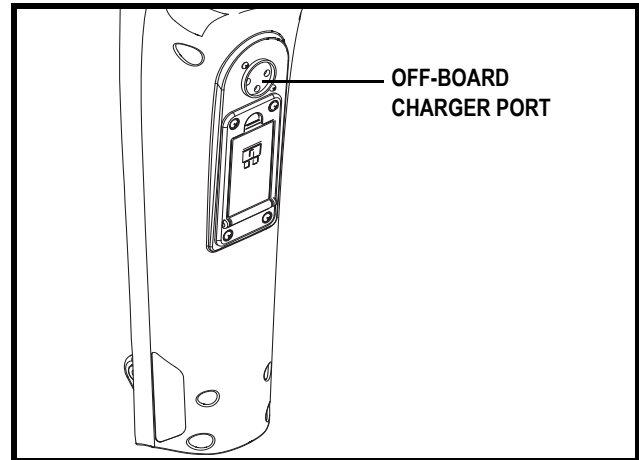

Figure 5. Off-board Charger Port (Tiller Mounted)
The off-board charger power lead plugs into this port during battery charging. The off-board charger port will be located on the tiller. See figure 5.
4. Plug the 3-pin charger power lead into the off-board charger port. See figures 5 and 12.